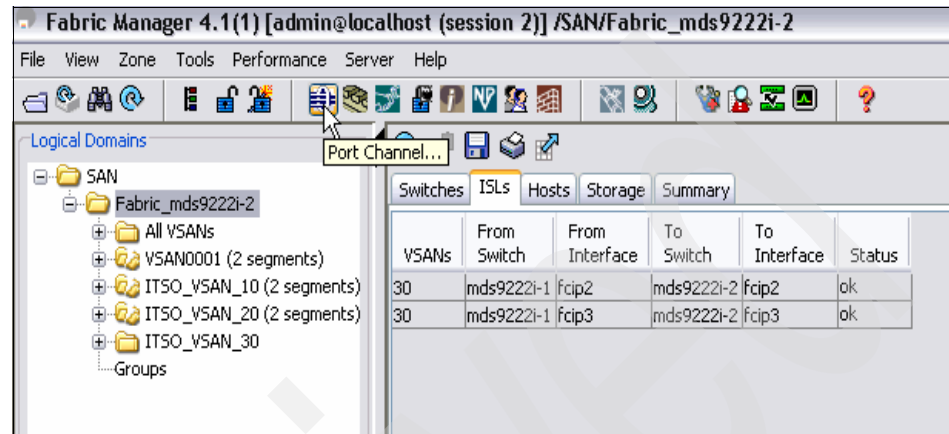

Figure 7-21 Starting the Port Channel wizard
1. We start the PortChannel wizard, as shown in Figure 7-21.